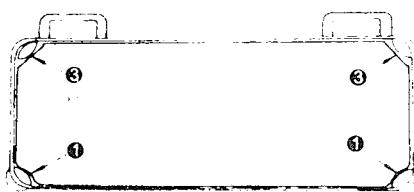
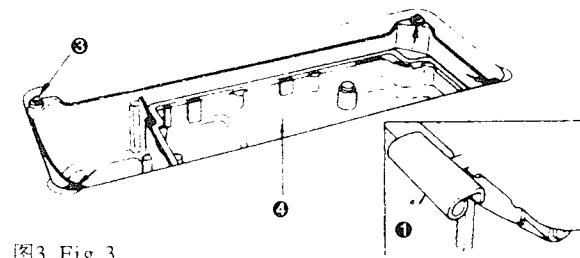
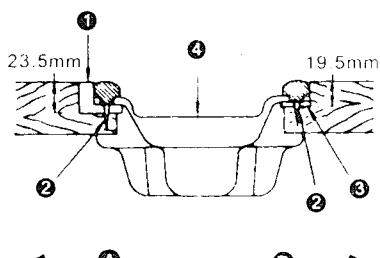
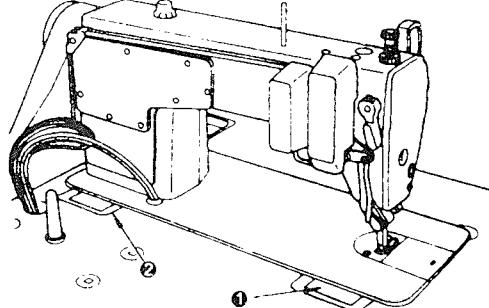

图1 Fig.1
图3 Fig.3
图2 Fig.2
图4 Fig.4
## 1. 机器的安装(图1、图2、图3、图4)
## 1. INSTALLATION (Fig.1, Fig.2, Fig.3, Fig.4)
- 2) 如图所示, 将两只油盘支座①用油盘座钉②固定在A一边(朝操作者一边), 将两只油盘座垫③用油盘座钉②固定在B一边(用机头连接钩接合一边), 最后把油盘④放在其上。(图1、图2)
- 3) 将机头连接钩①放入底板孔内, 与台板的机头连接钩座②相嵌合, 再将机头放到四只角的机头座垫③上。(图3、图4)
- 2) Fix two rubber seate ① on side A (operator's side) using nails ② as illustrated above. Fix two cushion seats ③ on side B (hinged side) using nails ②. Then place oil pan ④ on the fixed seats. (Fig.1, Fig.2)
- 3) Fit hinge ① into the opening in the machine bed, and fit the machine head to table rubber hinge ② before placing the machine head on cushions ③ on the four corners. (Fig.3, Fig.4)